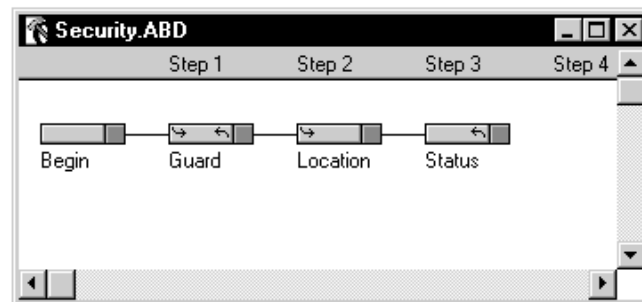

Figure 4-1 Security.abd Application
1. Open the Security application that you built in Chapter 3 (Figure 4-1).